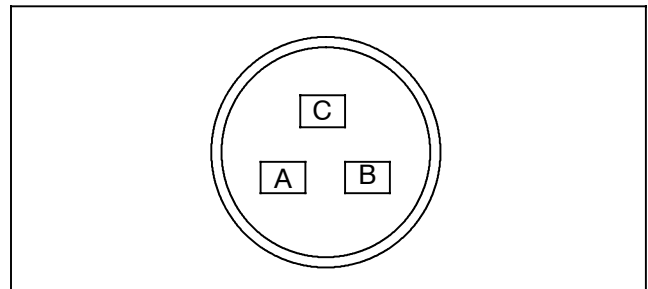

Figure 4-15 Transducer Terminal Location
- Use a digital volt-ohmmeter to measure voltage across the transducer connector corresponding to terminals A & B. See Figure 4-15. The reading should be 5.0 VDC.
- Use a digital volt-ohmmeter measure voltage across the transducer at terminals A & C. See Figure 4-15. Compare to values in Table 4-2. A reading within two percent of the values in the table would be considered good.